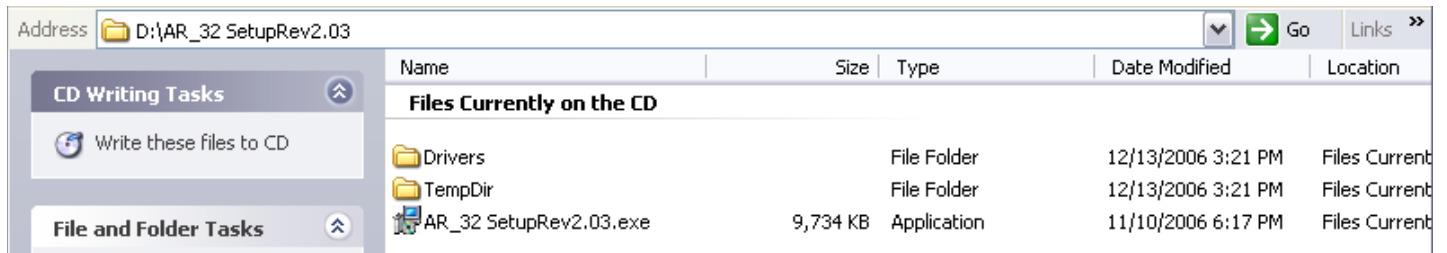

Figure 7
2. Locate the AR-32 SetupRevX.XX.exe application (Figure 7) on the CD and double-click to begin installation.